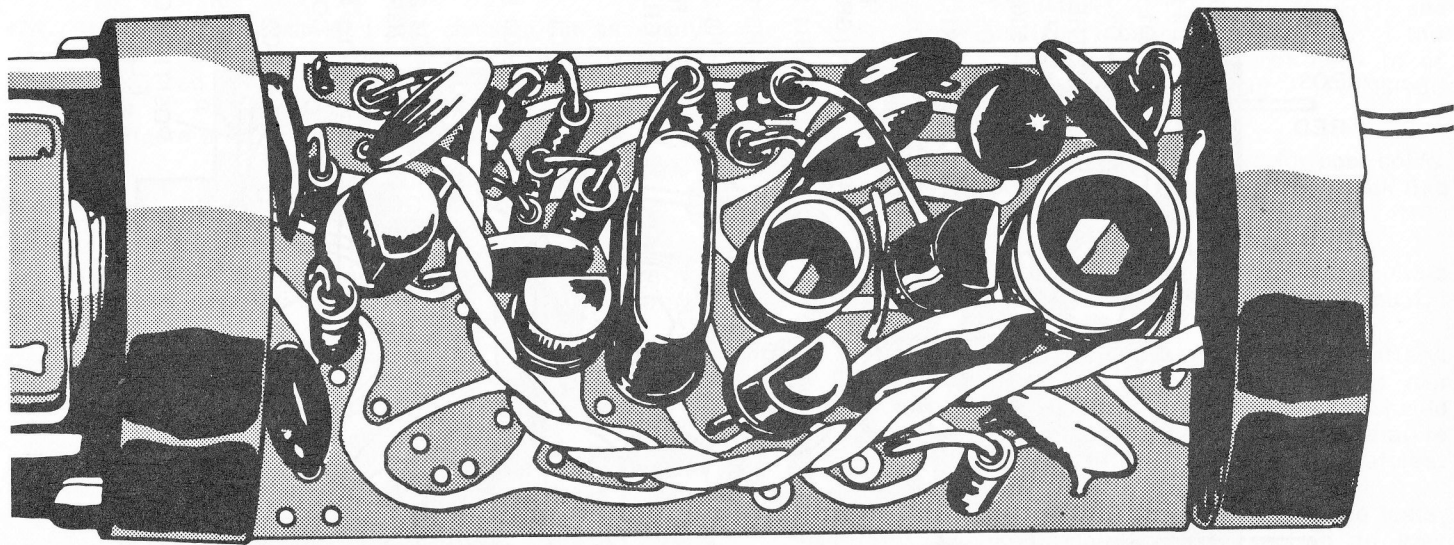

FIG. 2B TOP VIEW, "B" CONFIG. TRANSROC, TEMP. TM MODE
- 5B. ( ) Inspect the completed assembly to verify that it looks like Figure 2B. If Q2, C9, C11, R11, and R12 have previously been added for use of the microphone accessory, they do not need to be removed. See Figure 23 in your "TRANSROC Owner's Manual."